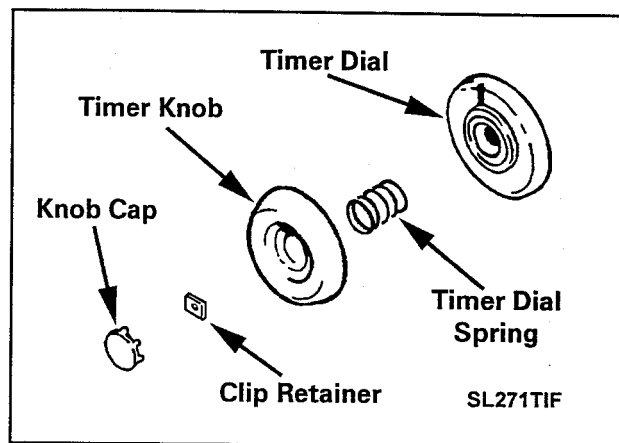

Figure 4-6
2. Carefully lift the timer knob cap from the timer knob and pry the clip retainer from the timer shaft. Lift the dial and knob off the timer shaft by pulling away from the face of the control console (*Figure 4-6*).